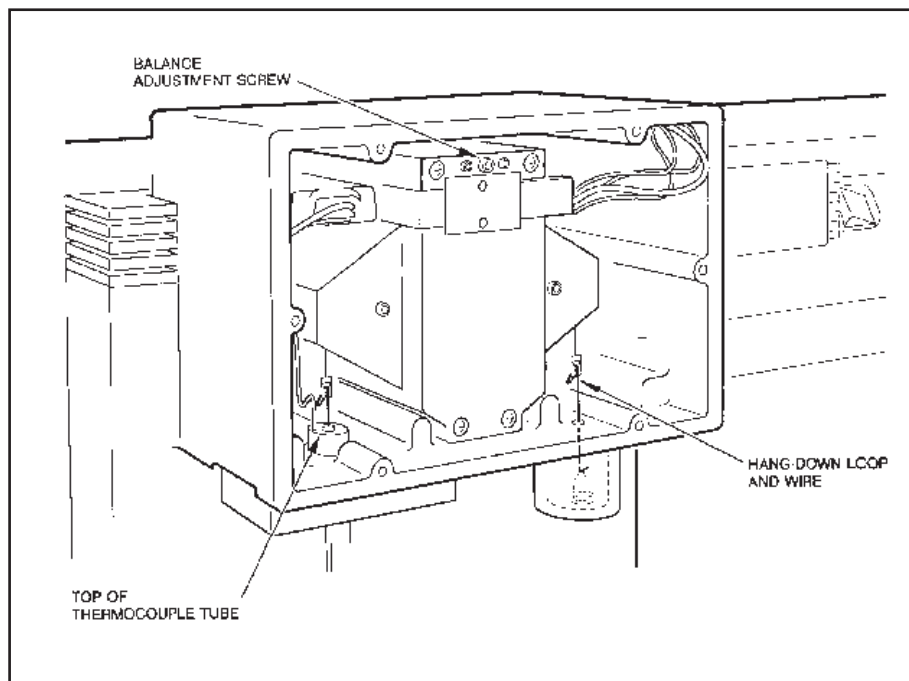

Figure 2.16
4. If the wire is not roughly centered inside the thermocouple tube, turn the balance adjustment screw (Figure 2.16) with the 7/64-inch ball driver until the wire is centered.